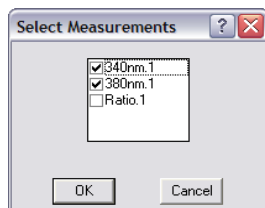

fig.2
4. Click on **Select Measurement** Icon (fig.1.C) and check 340nm and 380nm (fig.2) to view 340nm and 380nm average profiles.